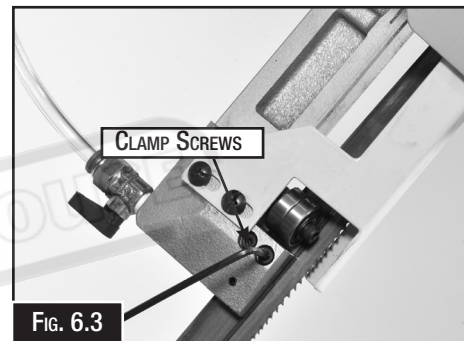
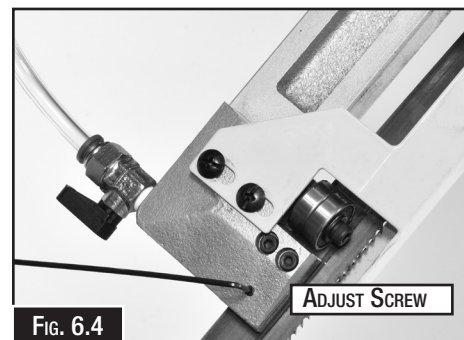

FIG. 6.3
FIG. 6.4
4. Loosen the two clamp screws (Fig. 6.3) and adjust the carbide blade guides with the adjust screw, so the back of the blade just touches the carbide guide.(Fig. 6.4)
4. Loosen the two clamp screws on each side (Fig. 6.3) and remove both the carbide blade guides, then remove the button carbide that the blade edge runs on. (Fig. 6.5)